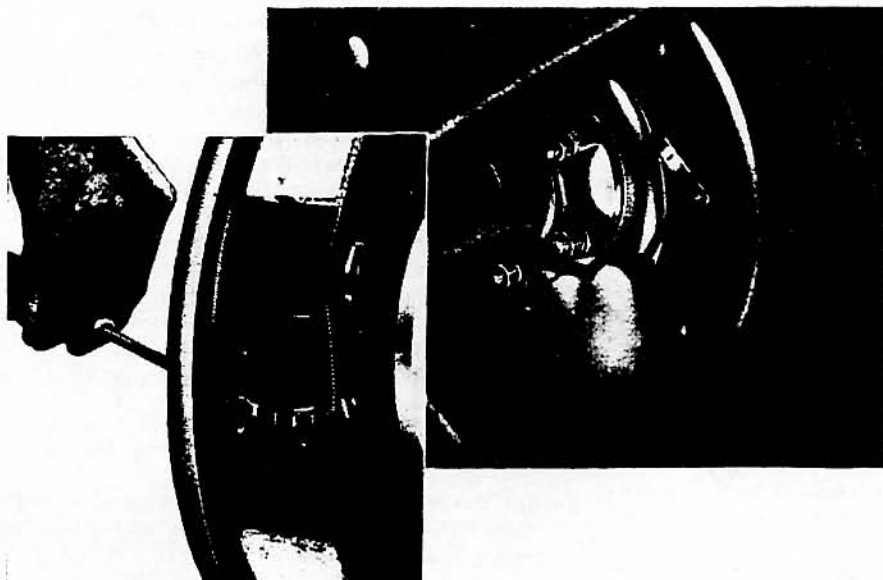

FIG. 4.
3. Expand shoes fully in drum by means of adjuster assembly (turn clockwise to expand) until wheel is fully locked. Tap drum lightly with hide or copper faced hammer and again attempt to tighten adjuster. Tighten brakes by moving cover plate and rotating barrel assembly clockwise with a screwdriver through the aperture, as shown in Fig. 4.